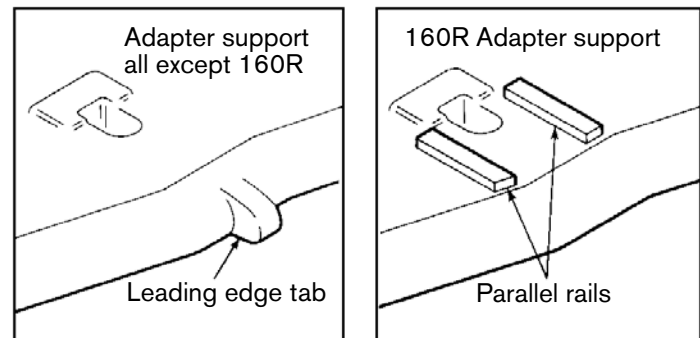

Figure 3
**Note:** Adapter support on all Zipper Lip series except 160R is provided by tabs that extend forward of the lip leading edge. Adapter support on 160R Zipper Lips only is provided by parallel rails that flank the adapter legs, see Figure 3.